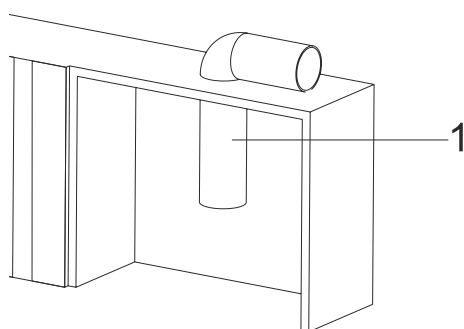

Fig. 12
2. → Bring the air exhaust pipe to the cabin in which the appliance will be mounted on (Fig. 12).